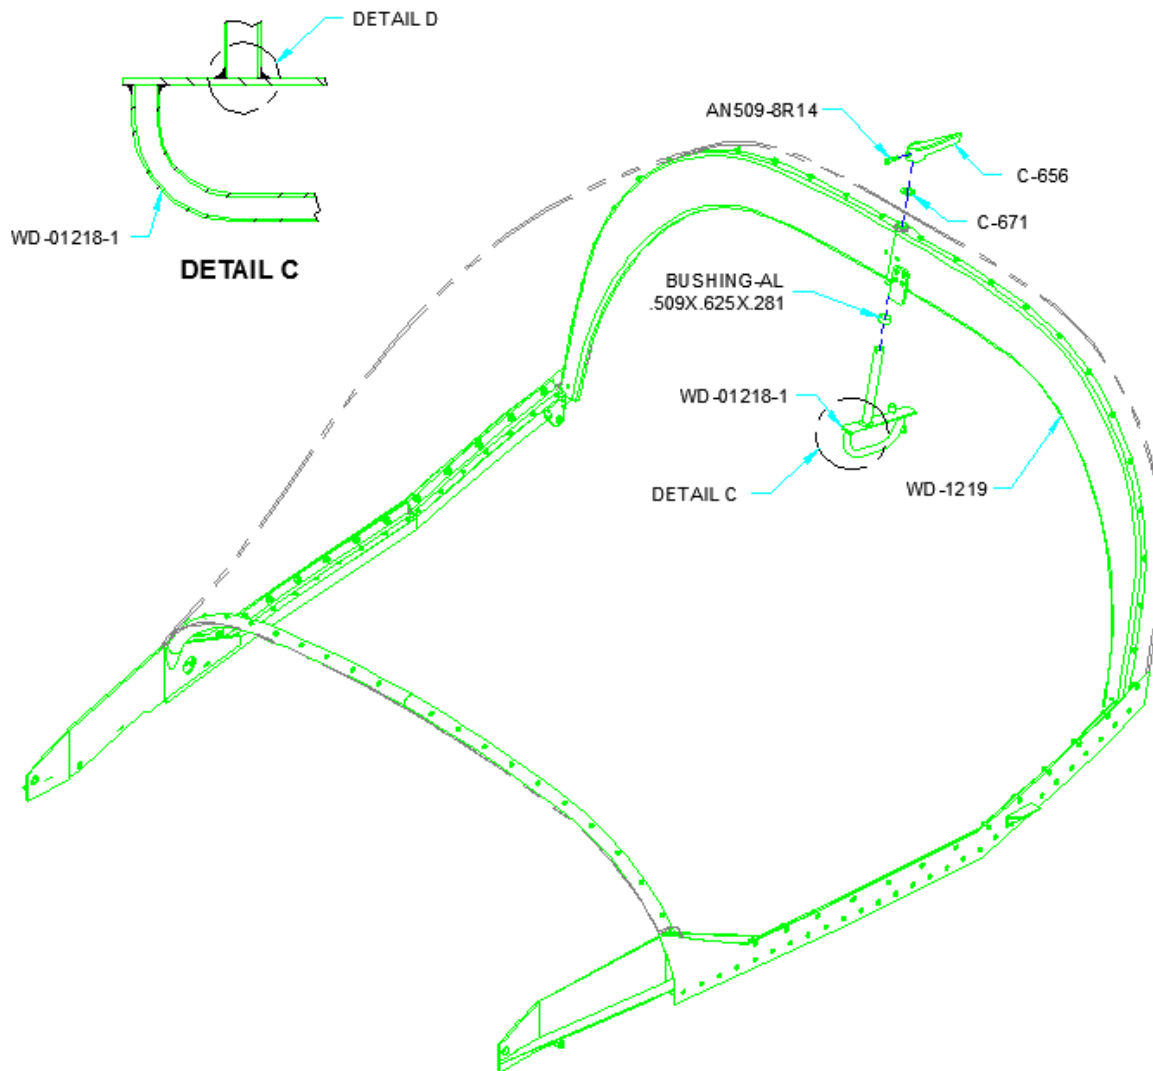

FIGURE 4: CANOPY LATCH INSTALLATION
Step 4: Chamfer the inside of BUSHING-AL.509X.625X.281 allowing it to sit lower on the WD-01218-1 Canopy Latch tube as shown in Figure 4.
Step 5: Install the WD-01218-1 Canopy Latch, called out bushing, C-671 Plastic Washer and C-656 Canopy Handle on the WD-1219 Canopy Frame as shown in Figure 4.